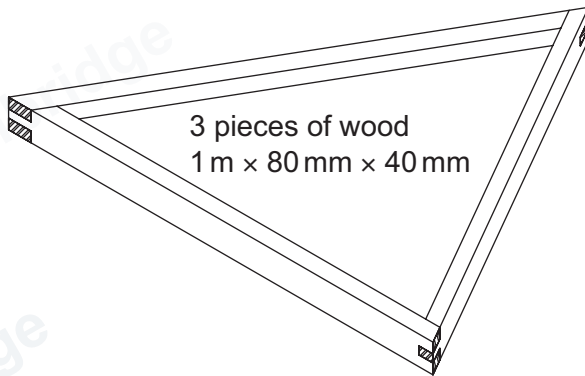

Figure 9.2
- (ii) Figure 9.2 shows three pieces of wood that will be joined to make one of the triangular frames.